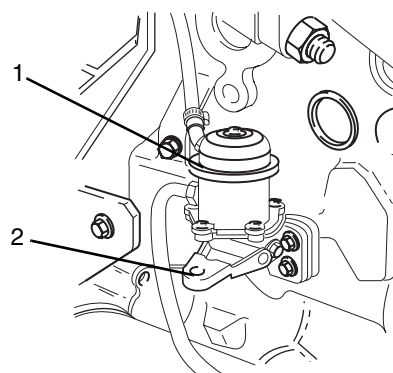

Figure 10-17 Fuel Lift Pump
2. Locate the fuel lift pump (Fig. 10-17, 1) on the left side toward the front of the engine. Pump the priming lever (2) on the fuel lift pump slowly for approximately two minutes, or until a moderate resistance is felt.